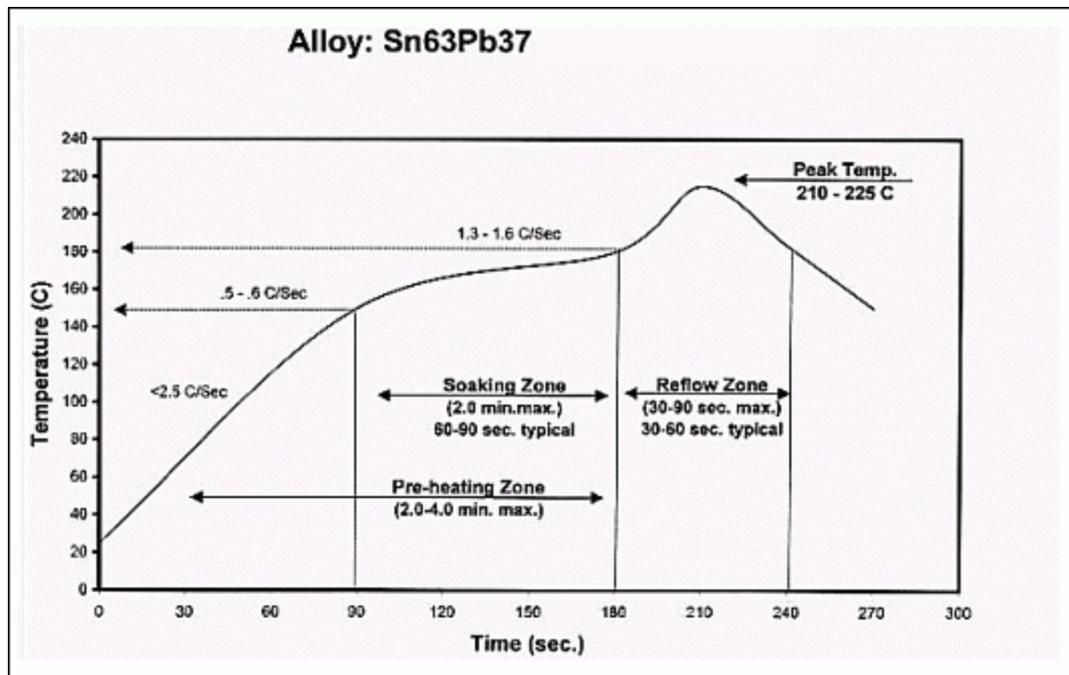

Figure 6. Typical temperature Profile for Eutectic Sn-Pb Solder paste.
- Eutectic Sn-Pb solder paste reflow to eutectic Sn-Pb and "High-Pb" solder bump WLPs: Nominal peak temperature is $220^{\circ}\text{C} \pm 15^{\circ}\text{C}$ with time above the 183°C melting point of $60\text{s} \pm 15\text{s}$, which should be verified at machine setup by inline thermocouple measurements oven profiling. A typical eutectic Sn-Pb solder paste reflow temperature profile is shown in **Figure 6**. The peak temperature Upper Limit is recommended for eutectic Sn-Pb solder paste reflow to "High-Pb" solder bump WLP, to further enhance the intermetallic bond layer at the bump interface.